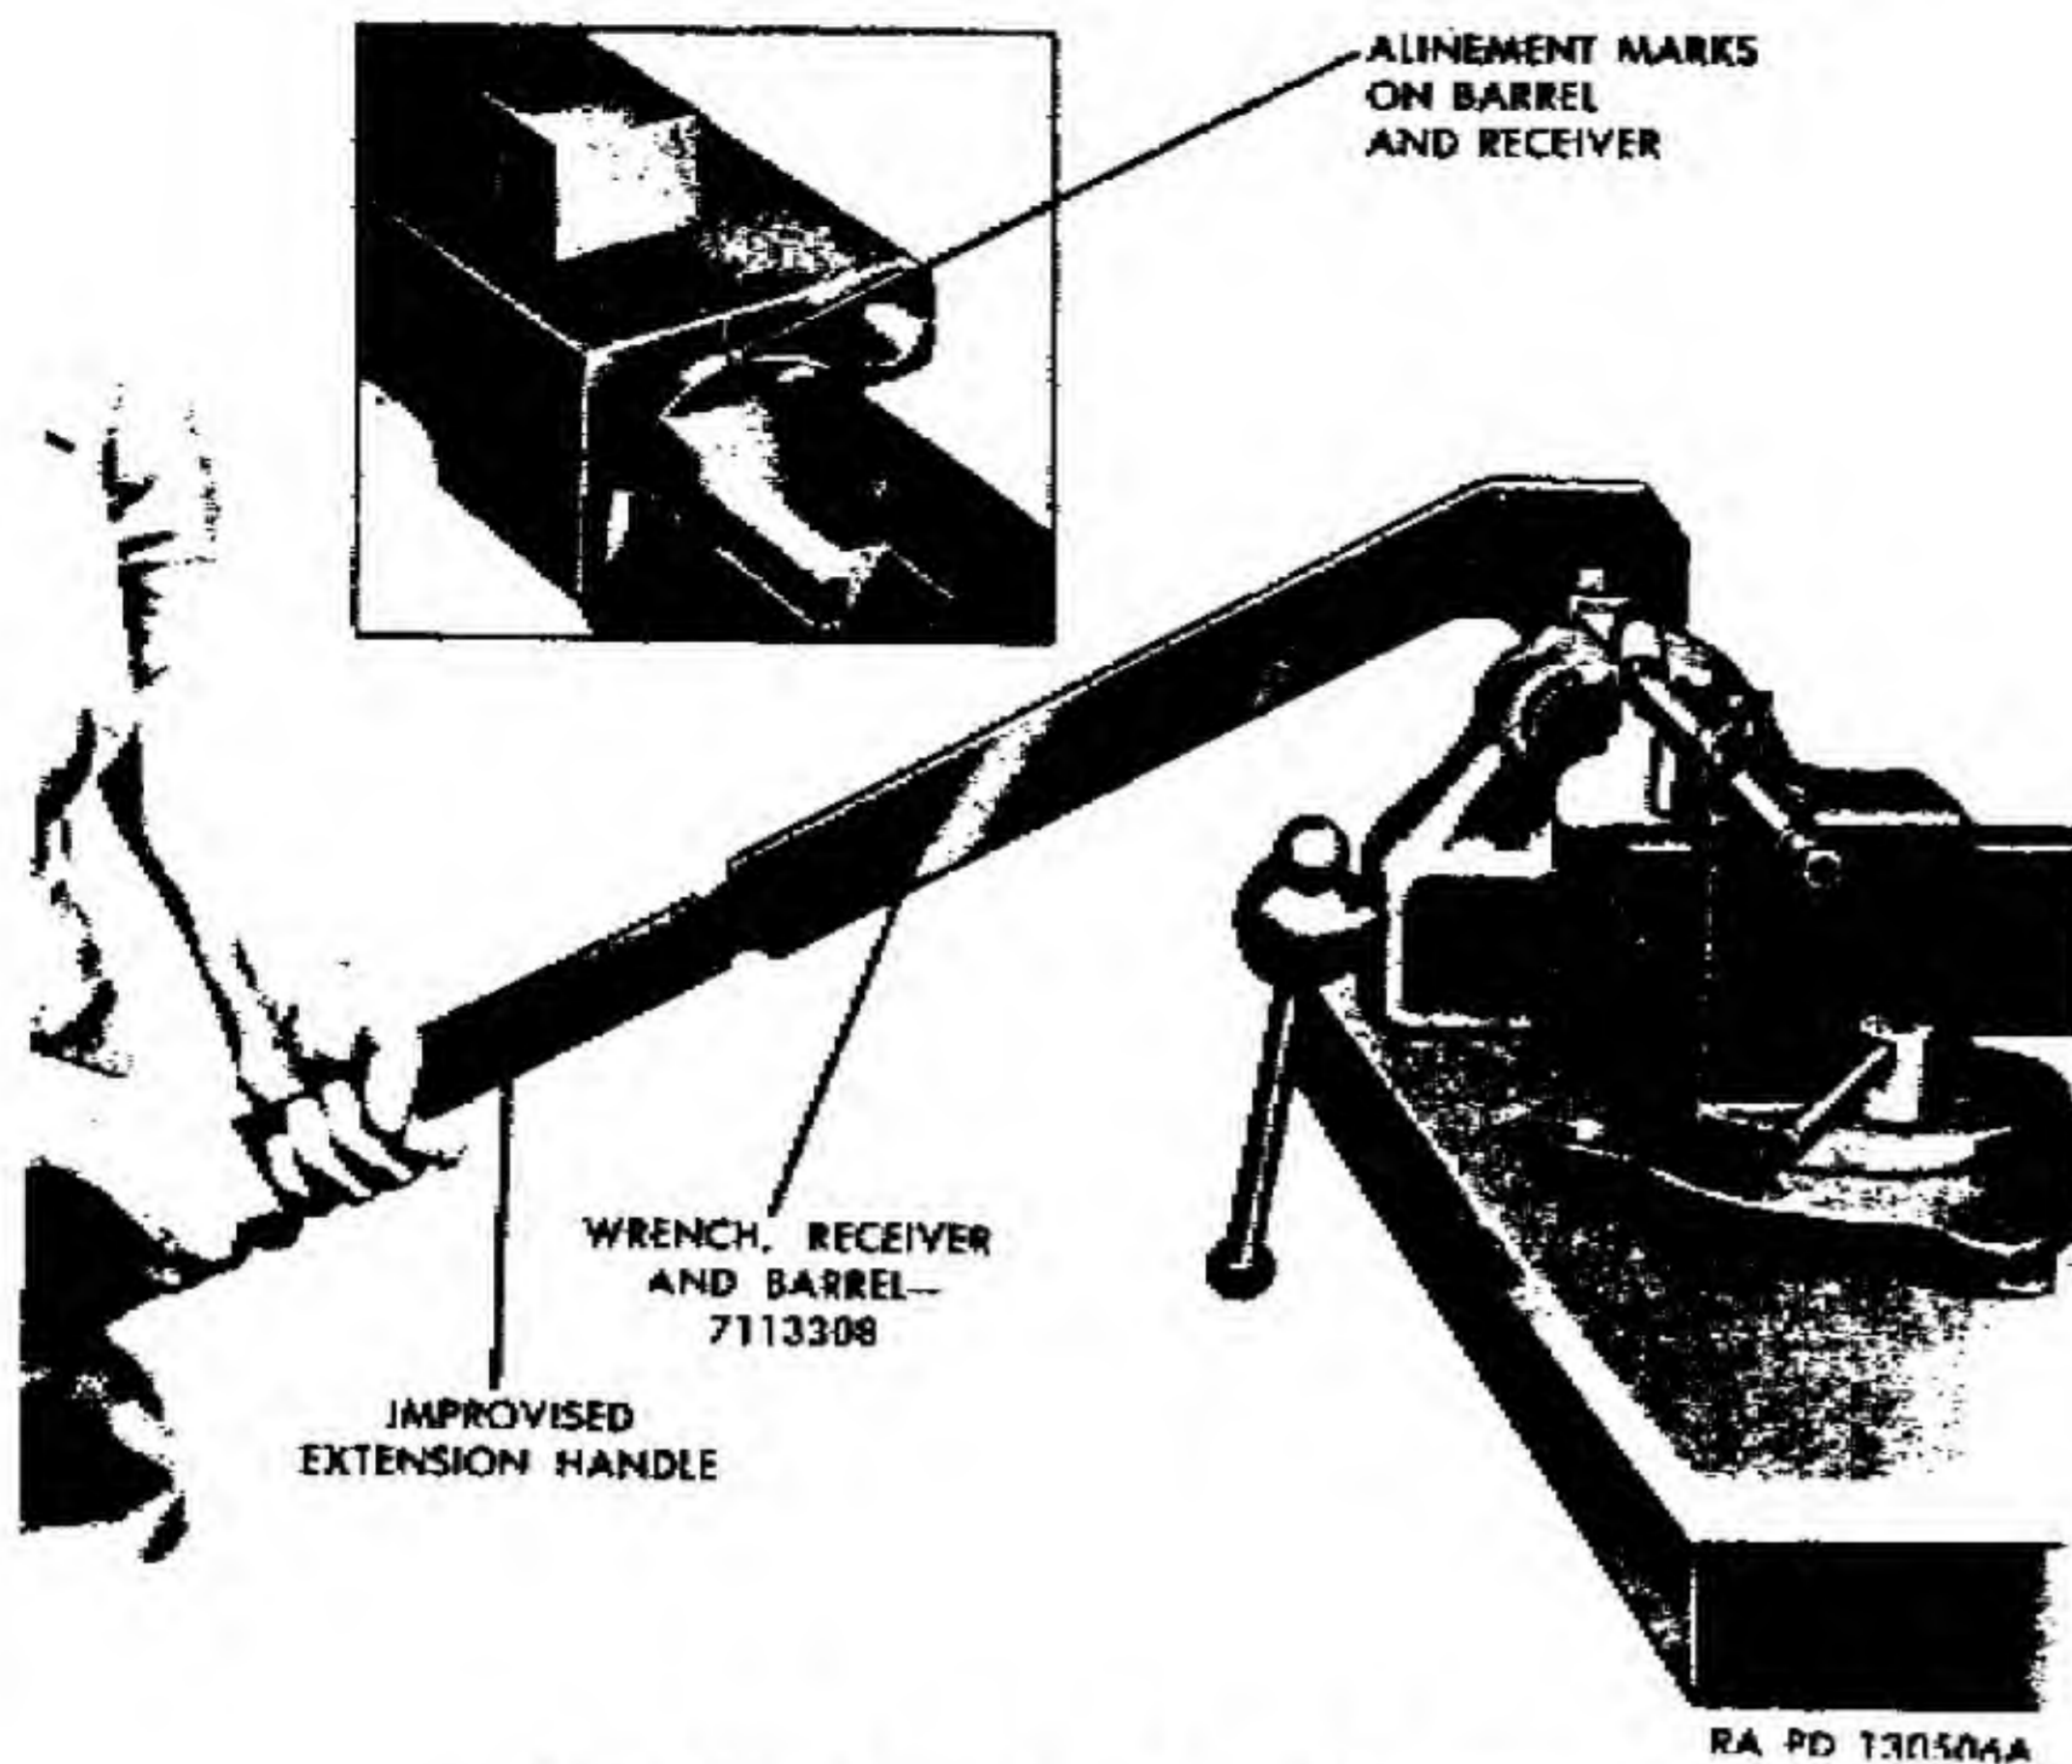
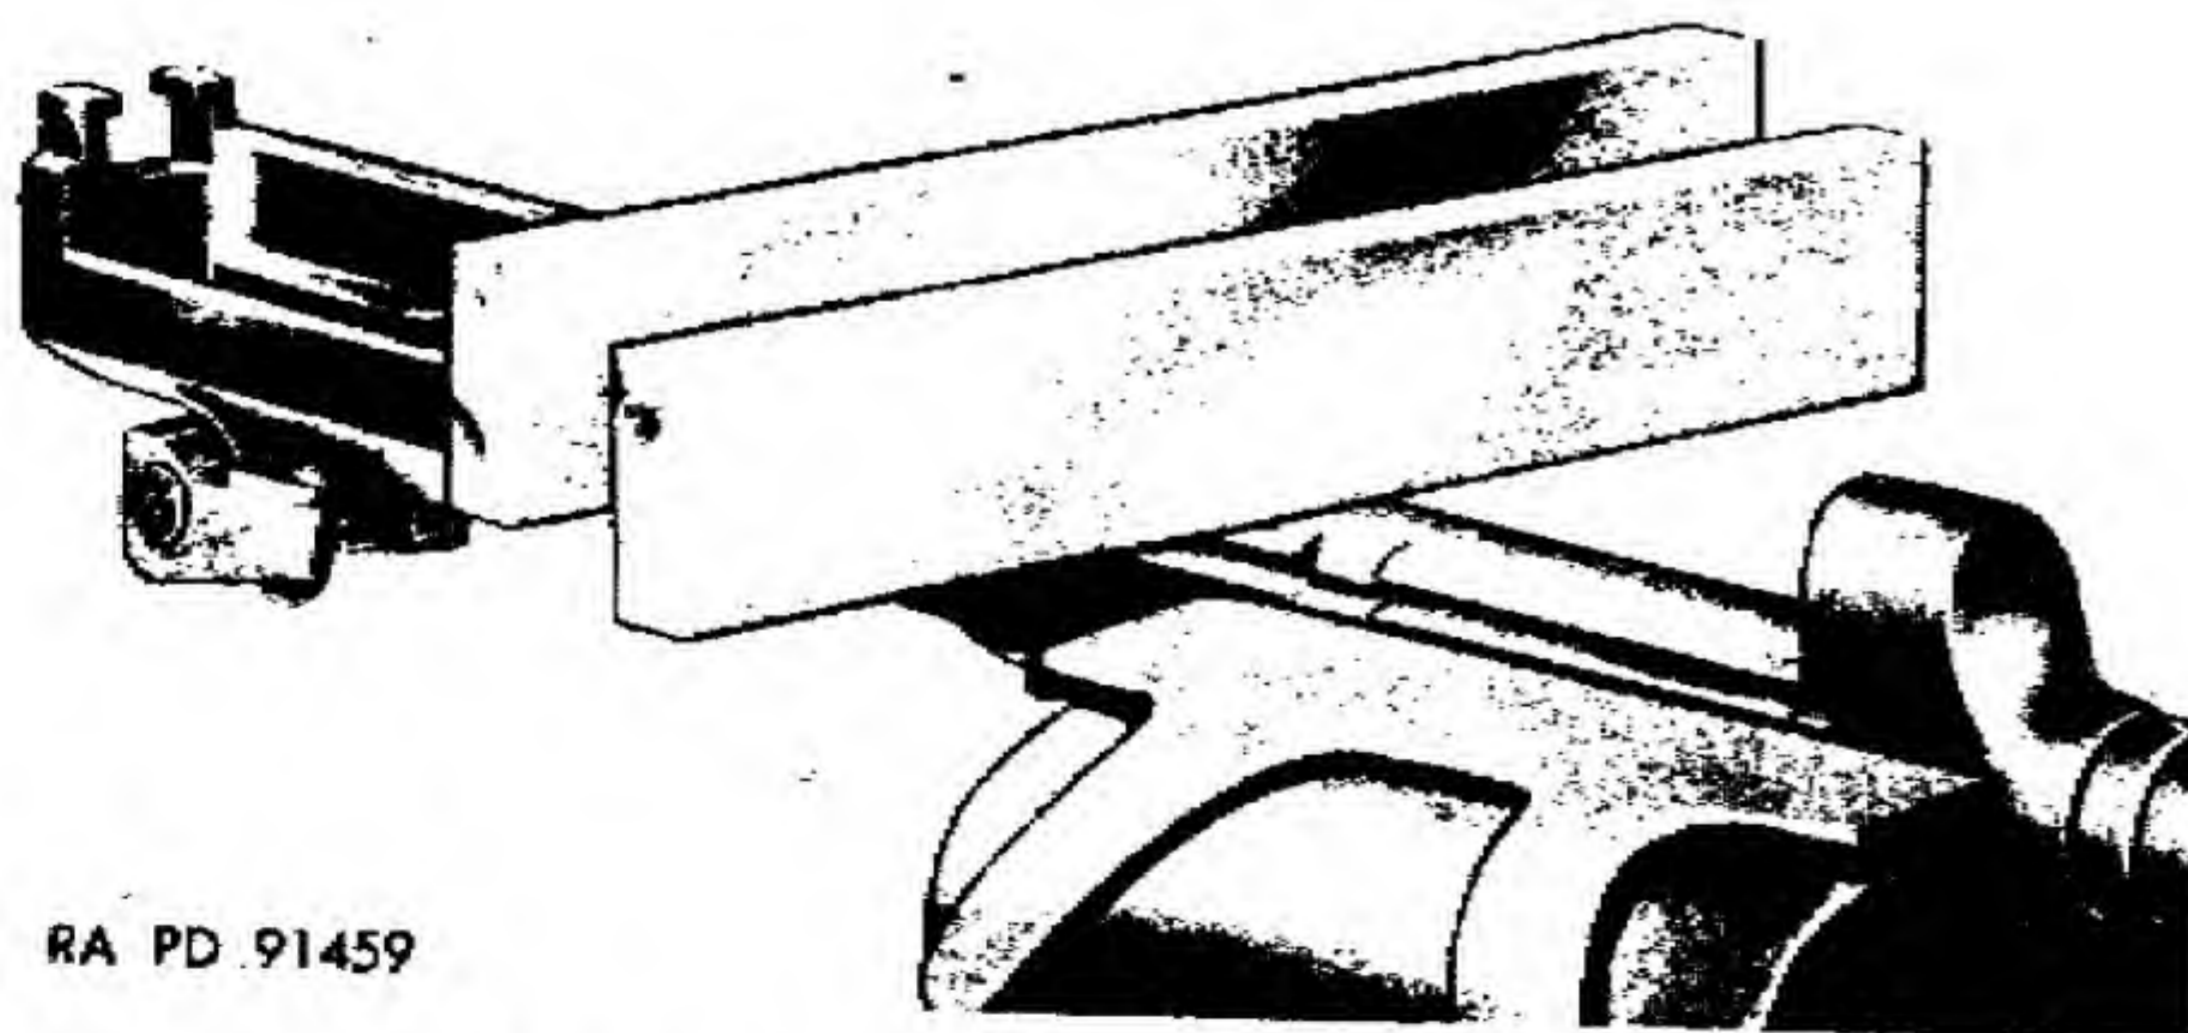

Figure 92. Assembling barrel to receiver.
Figure 93. Checking barrel and receiver alignment.
a. *Replacing Barrel.* Select proper barrel and receiver combination so that about  $\frac{1}{8}$ -inch draw is obtained when assembled. Screw the receiver on the barrel with receiver and barrel wrench 7113308 (fig. 9); draw up receiver until alinement marks on barrel and receiver (fig. 92) coincide. Then determine that the flat surfaces on bottom of barrel and receiver are parallel. Check this by indicator or placing two bars, about 10 inches long, in position as illustrated in figure 93; and sight over the edges. When the two bars lie parallel, the barrel and receiver are in exact alinement for proper functioning.